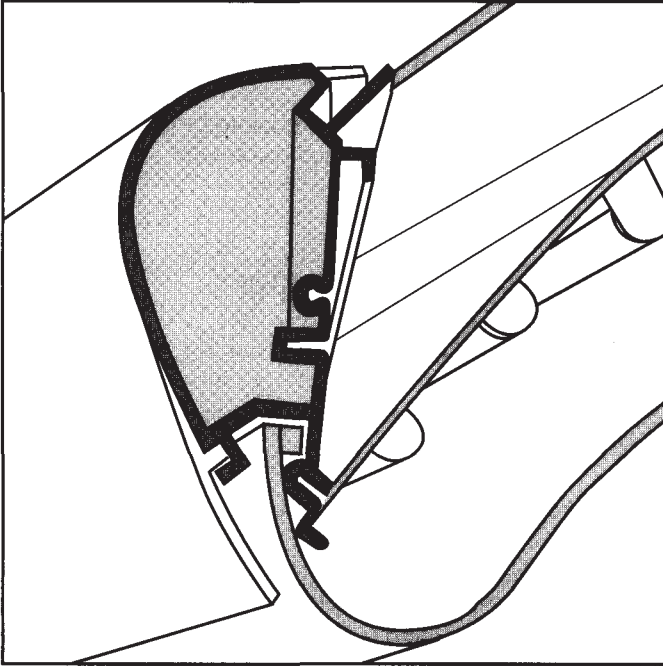

fig. 3
When assembling the acrylic sheet (19), make sure that the edges are properly inserted behind the aluminium profile (fig. 3).